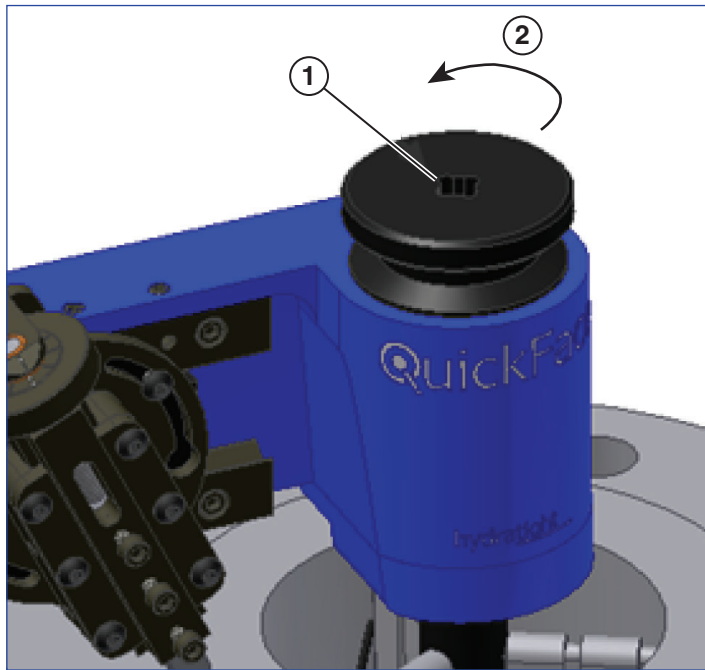

Figure 15
11. If the surface meets the desired results, remove the machine by turning the mandrel locking knob counterclockwise (see Figure 15). If the surface needs to be cut again, repeat steps 4 – 11 until complete.